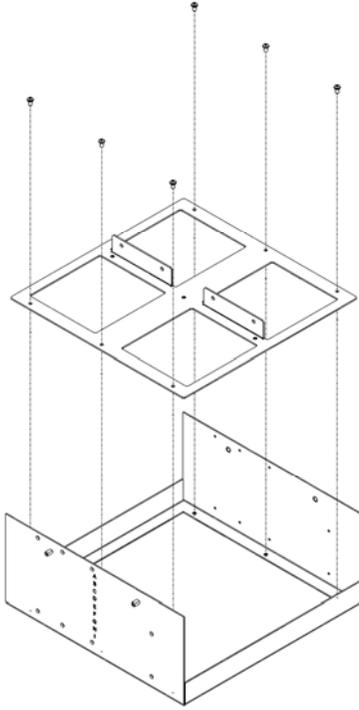

Figure 5. Attach the Cradle Adapter (41988) to Cradle (41989)
1. Attach the Cradle Adapter (41988) to the Cradle (41989) using six M4 x 10-mm screws (40462), as shown in Figures 5 & 6.